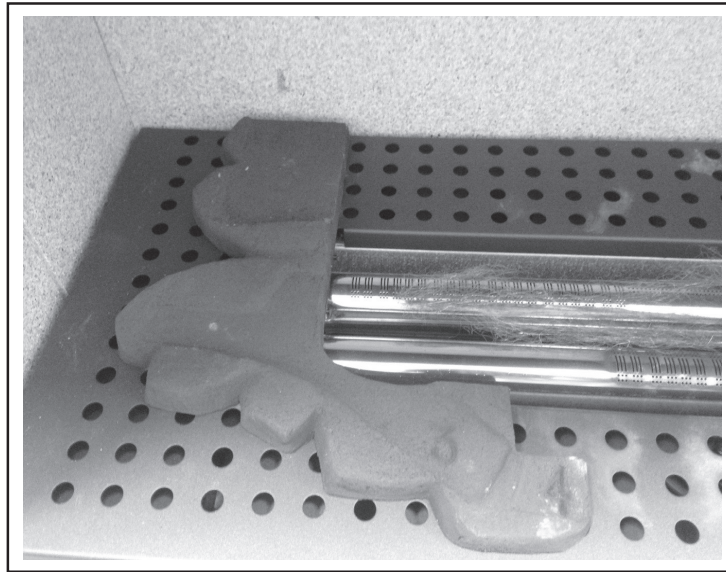

Fig. 1
**1.** Place the LHS ceramic base in the burner compartment. The inside face of the base should align with the burner opening (See fig.1). Ensure the ceramic base is not covering the burner, and it is positioned from any further movement forward.